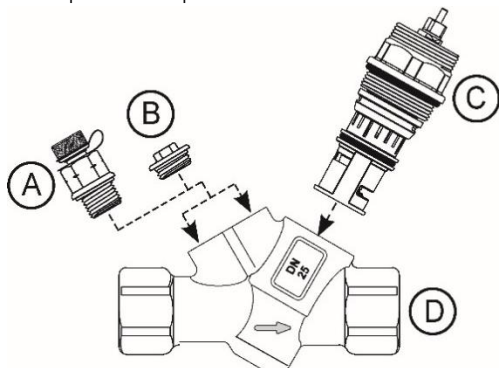

Figure 1. DN15-32 Valve Components
4. See, *Figure 1* to familiarize yourself with the valve and its components. The Valve body (D) is the housing marked with an arrow to show flow direction. The Flow regulator (C) which is pre-installed in valve body, regulates flow. Pressure ports (A) facilitates user to gauge pressure across ends. The Plugs (B) comes with valve models without pressure ports. See VPI series PICV Product Datasheets for details on models with and without pressure ports.